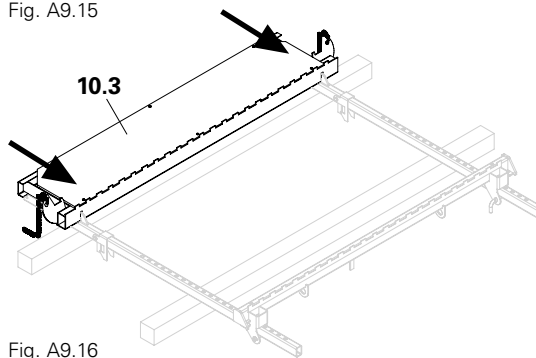

Fig. A9.16
3. Hook the platform frame (10.3) into the hooks of the longitudinal beams. (Fig. A9.16)